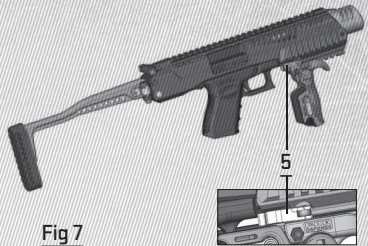

Fig 7
Fasten your Pistol by closing the Locking Lever (5) in horizontal position (Fig. 7).